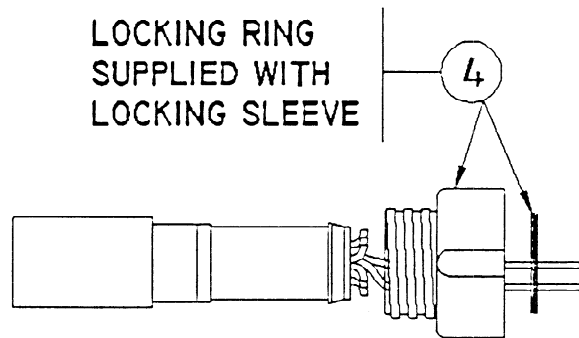

FIGURE 3
13. Install the locking ring (supplied with locking sleeve) into the groove inside the locking sleeve (item 4). Install locking sleeve on barbed connector; see Figures 3 and 4.